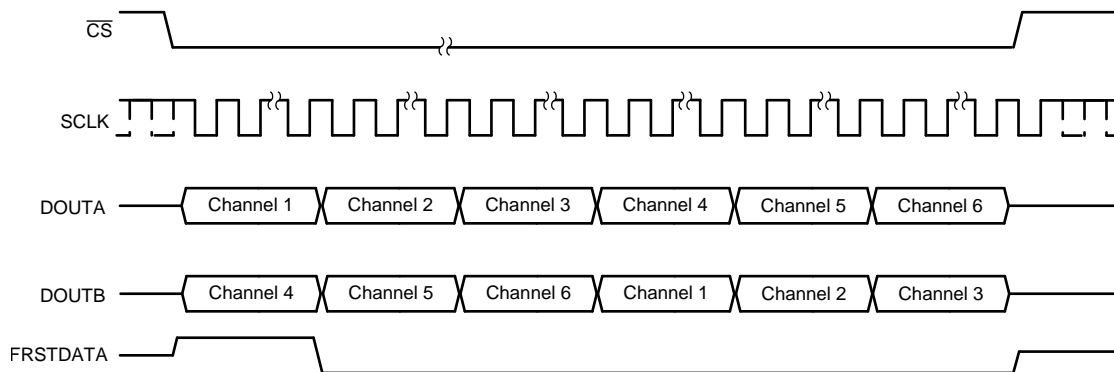

Figure 69. Data Read Back in the Serial Interface Using Either DOUTA or DOUTB Timing Diagram
- The conversion data can be read out of the device using only one of the two serial output lines, DOUTA or DOUTB. In this case, using DOUTA for output data read back is recommended because channel 1 data appear first on DOUTA followed by the data for other channels in ascending order. To read the data for all channels, provide a total of $16 \times 6 = 96$ SCLK cycles for the ADS8586S. This entire data frame can be created within a single \overline{CS} pulse or each group of 16 SCLK cycles can be individually framed by the \overline{CS} signal. The primary disadvantage of using just one data line for reading conversion data is that the throughput is reduced if a data read operation is performed after conversion. Figure 69 shows this operation.
- Alternatively, only DOUTB can be used for reading the conversion data from all channels. In this case, everything else remains the same and the output bit stream contains data for all channels in the following order: channels 4, 5, 6, 1, 2, and 3 for the ADS8586S. Figure 69 shows this operation.